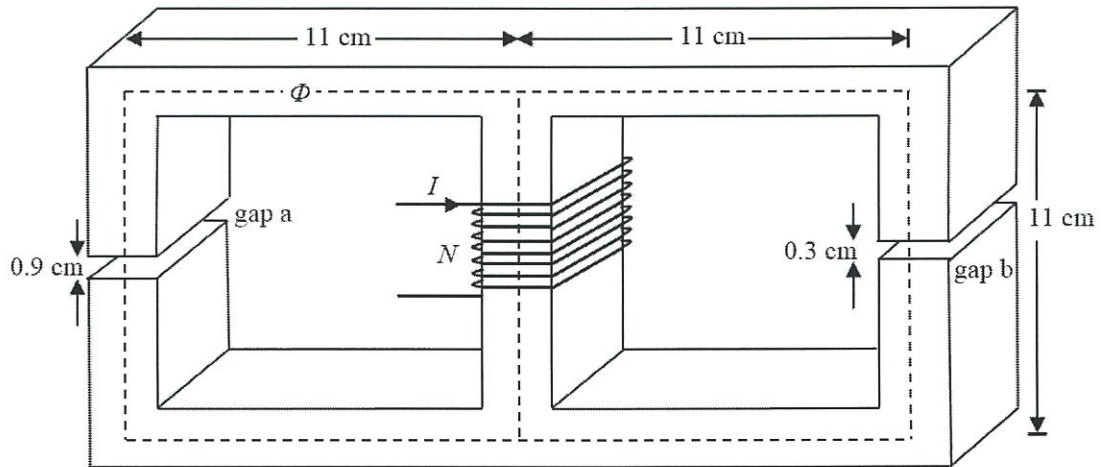

Figure Q1(b)
- Q1** (a) List **TWO (2)** types of losses that can occur in ferromagnetic core. (2 marks)
- (b) In the magnetic circuit as shown in **Figure Q1(b)** the relative permeability of the ferromagnetic material is 1200. The core wound for 400 turns and carries a current of 3 A. The iron core has a cross-sectional area of 2 cm by 2 cm. All dimensions are in centimeters.